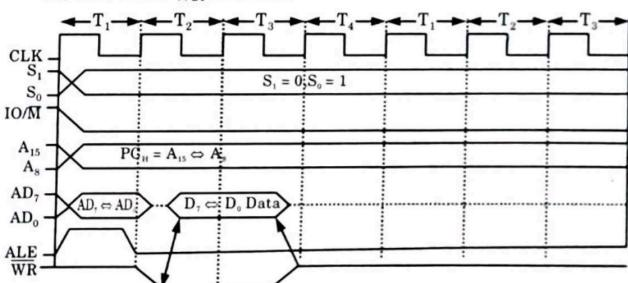

Fig. 2.8.3. Memory write timing diagram.
4. This ensures that the memory or port has valid data while \overline{WR} is active, it is clear from Fig. 2.8.3.